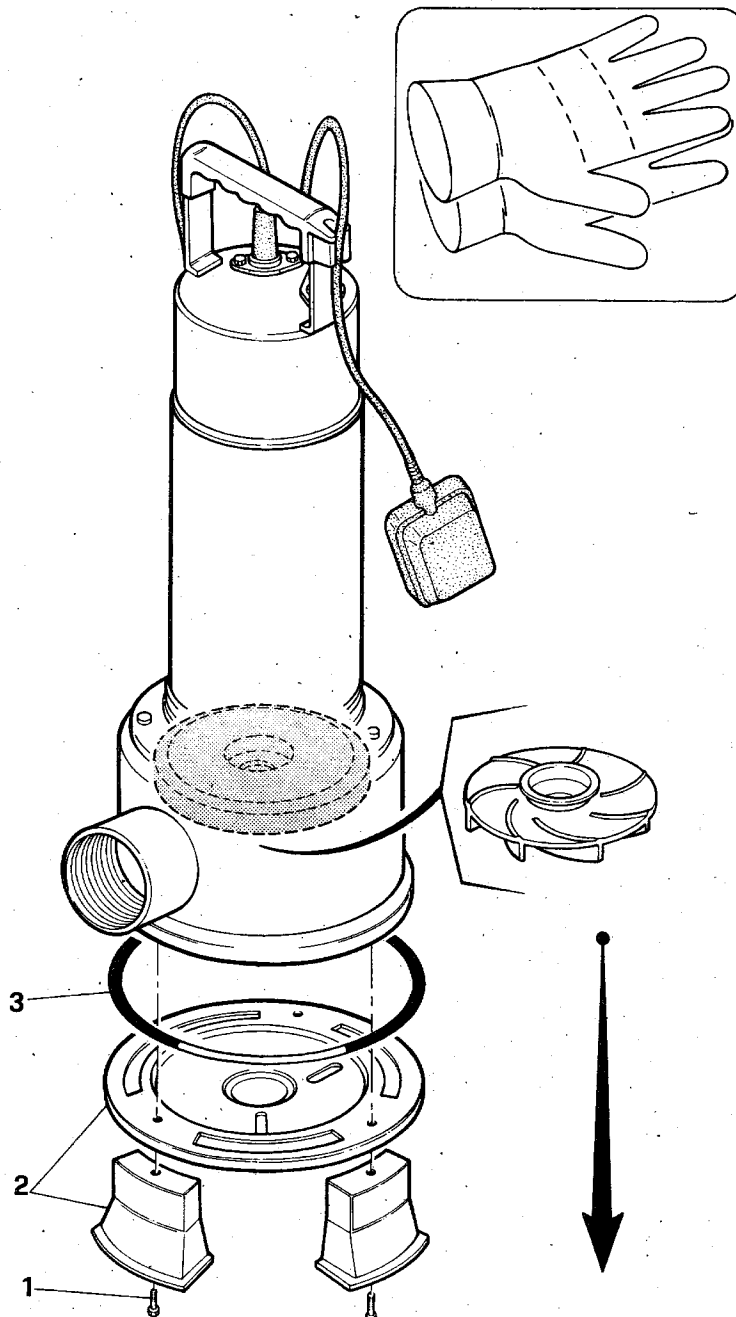

fig. 7 - Abb. 7 - fig. 7 - kuva 7 - afb. 7 - fig. 7 - εικ. 7
15.7. SCHEMA PER PULIZIA GIRANTE ELETTROPOMPA (fig. 7)
15.7. DIAGRAM FOR CLEANING THE ELECTROPUMP IMPELLER (fig. 7)
15.7. DEMONTAGE COUVERCLE COTE ROUE (fig. 7)
15.7. DEMONTAGE-SCHEMA FILTER ELEKTROPUMPE (Abb. 7)
15.7. ESQUEMA DESMONTAJE FILTRO ELECTROBOMBA (fig. 7)
15.7. RENGÖRING AV ELPUMPENS SKOVELHJUL (fig. 7)
15.7. DIAGRAM FOR RENGØRING AF ELEKTROPUMPENS SKOVELHJUL (fig. 7)
15.7. SCHEMA DEMONTAGE FILTER ELEKTROPOMP (afb. 7)
15.7. ESQUEMA DE DESMONTAGEM DA TAMPA DO LADO DO IMPULSOR (fig. 7)